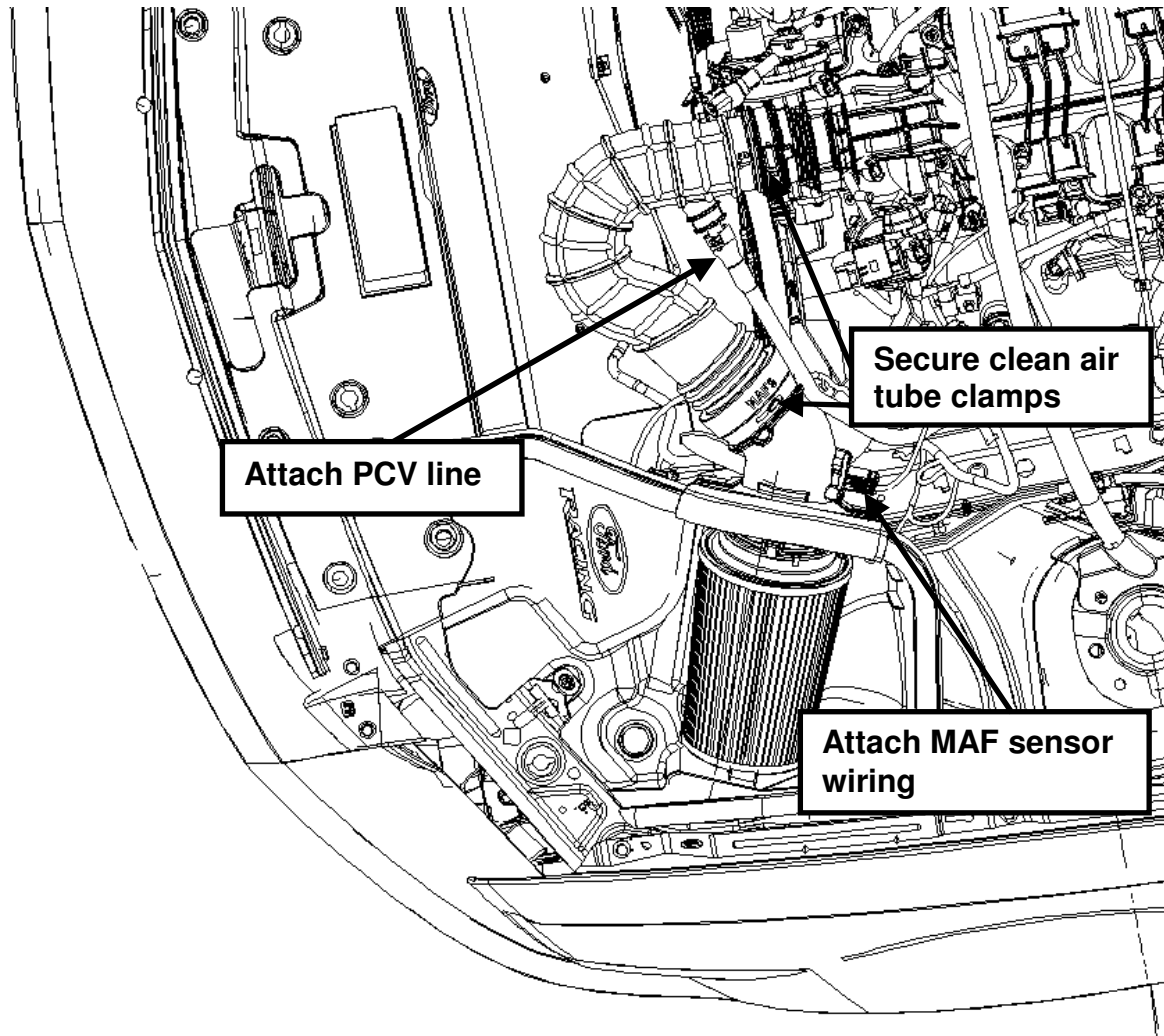

Fig. 7
- STEP 5:** Install the new rubber clean air tube onto the throttle body and air intake bucket assembly. Tighten the worm drive clamps and torque to 3 Nm (26 lb in). Re-install the MAF electrical connector onto the MAF sensor and reconnect the PCV hose (See Fig. 7).